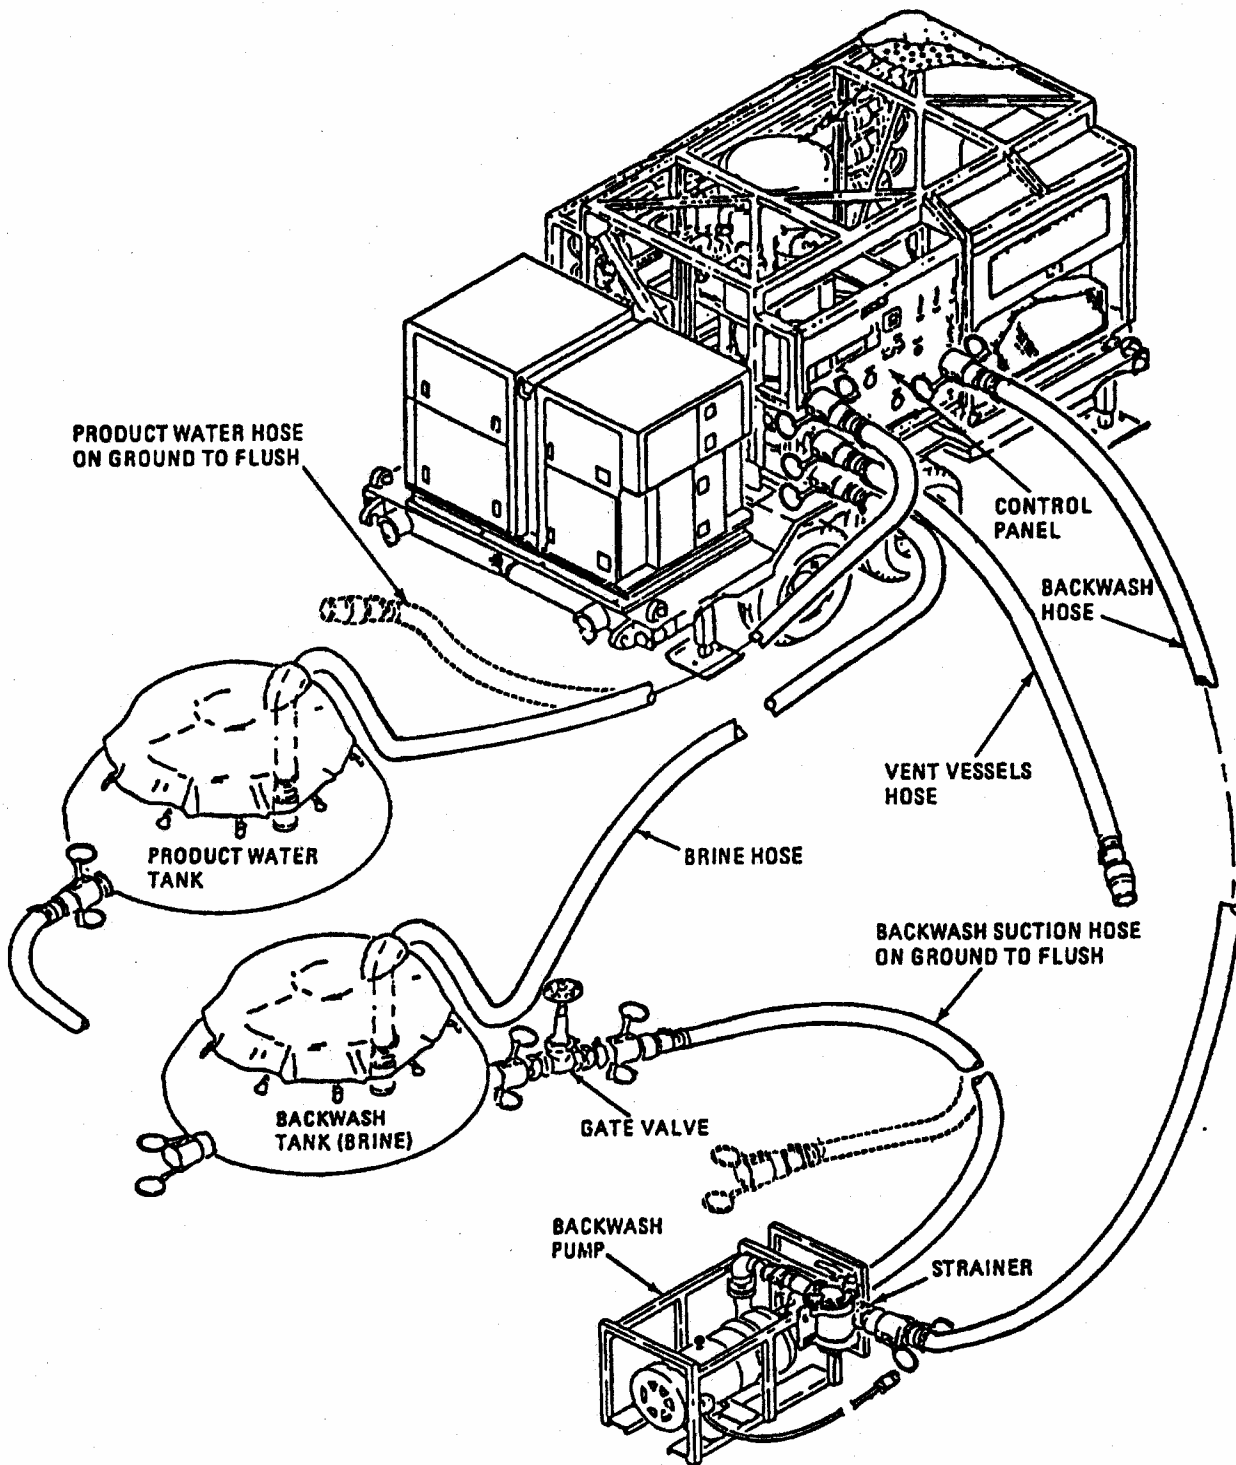
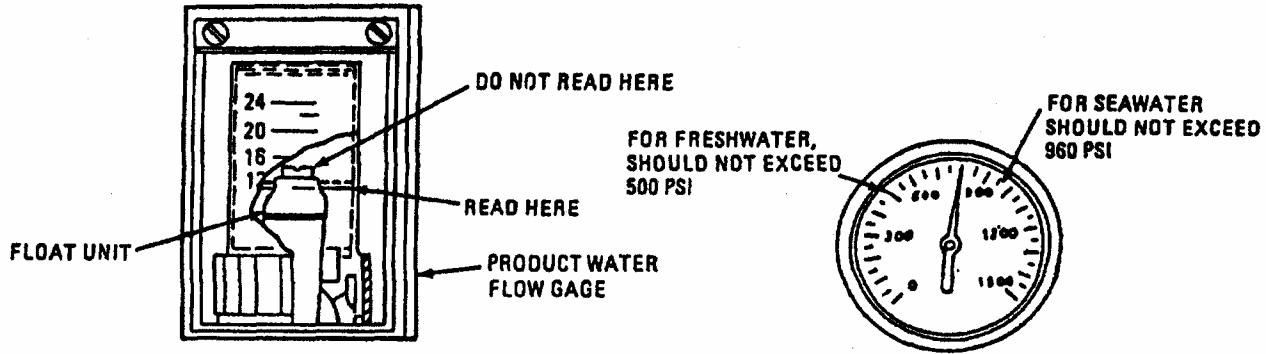

Figure 2-72. Rinsing Cleaning Solutions from Product Water Hose.
Figure 2-73. Product Water Flow Adjustment.
- (30) Disconnect suction hose from backwash pump inlet (figure 2-72).
- (31) Place brine hose in backwash tank to flush chemical residue from tank and suction hose.
- (32) Close gate valve between backwash tank and backwash pump.
- (33) Reconnect backwash pump suction hose to backwash pump when hose is clean.
- (34) Adjust REGULATE PRODUCT FLOW valve (18, figure 2-5) until PRODUCT WATER FLOW gage (figure 2-73) indicates under 16 GPM (fresh/brackish water) or 12 (seawater), and R.O. PRESSURE PSI gage indicates under 500 (fresh/brackish water) or 960 (seawater).
(39) When chlorine residual and pH are within required limits, place product water line in product water tank (figure 2-72).
(40) Continue normal operating procedure (para. 2-9) unless ROWPU is to be secured, continue with instructions provided in para. 2-14 Shutdown Procedures.